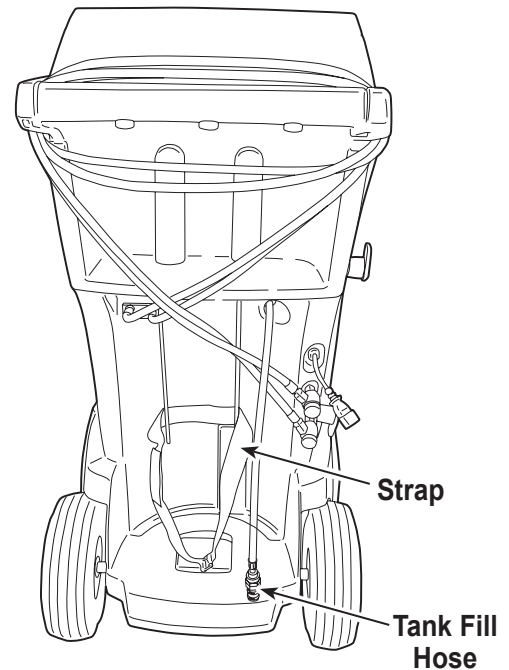

Figure 3
1. Connect an R-1234yf source tank to the tank fill hose at the rear of the machine. Hand tighten the tank fill hose. See Figure 3.